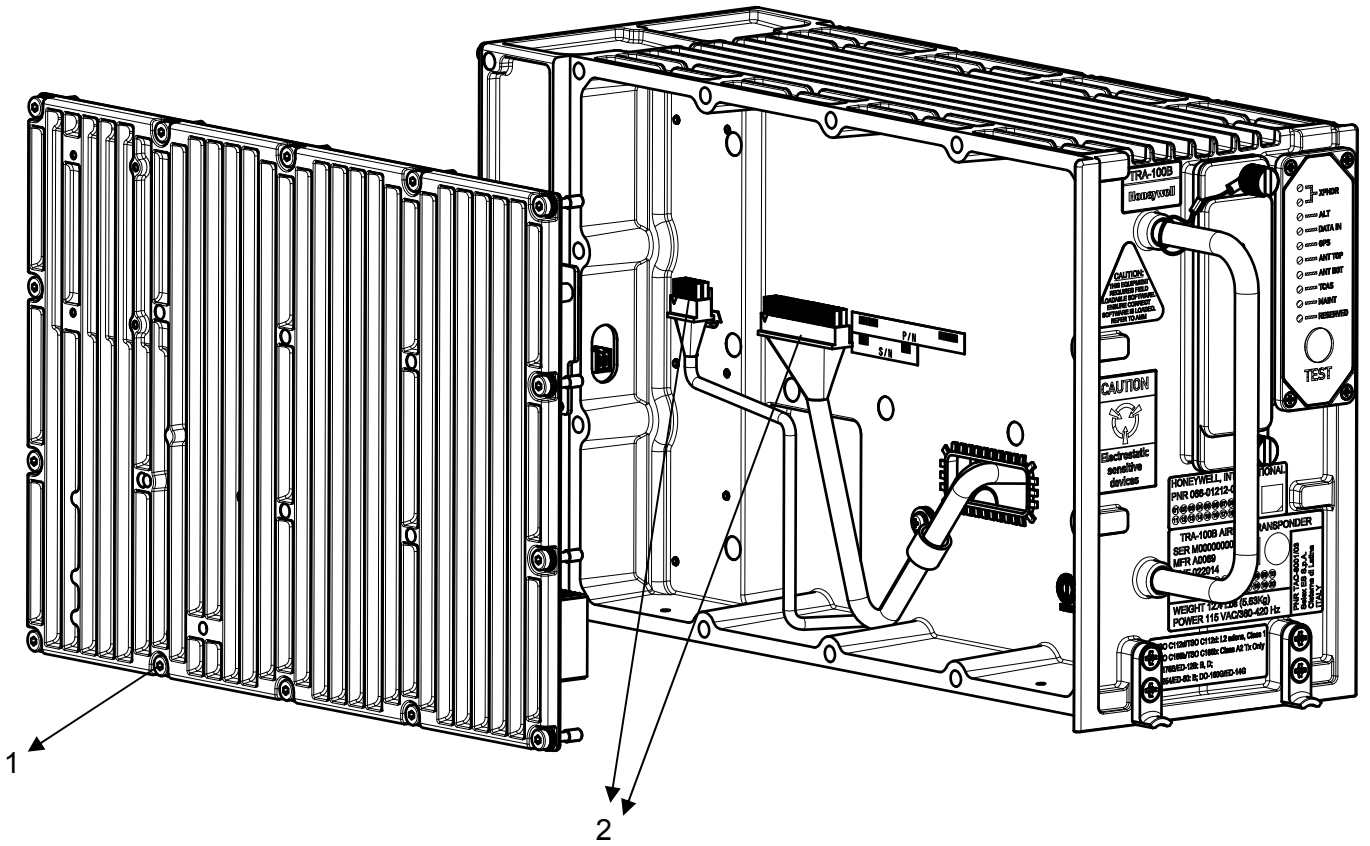
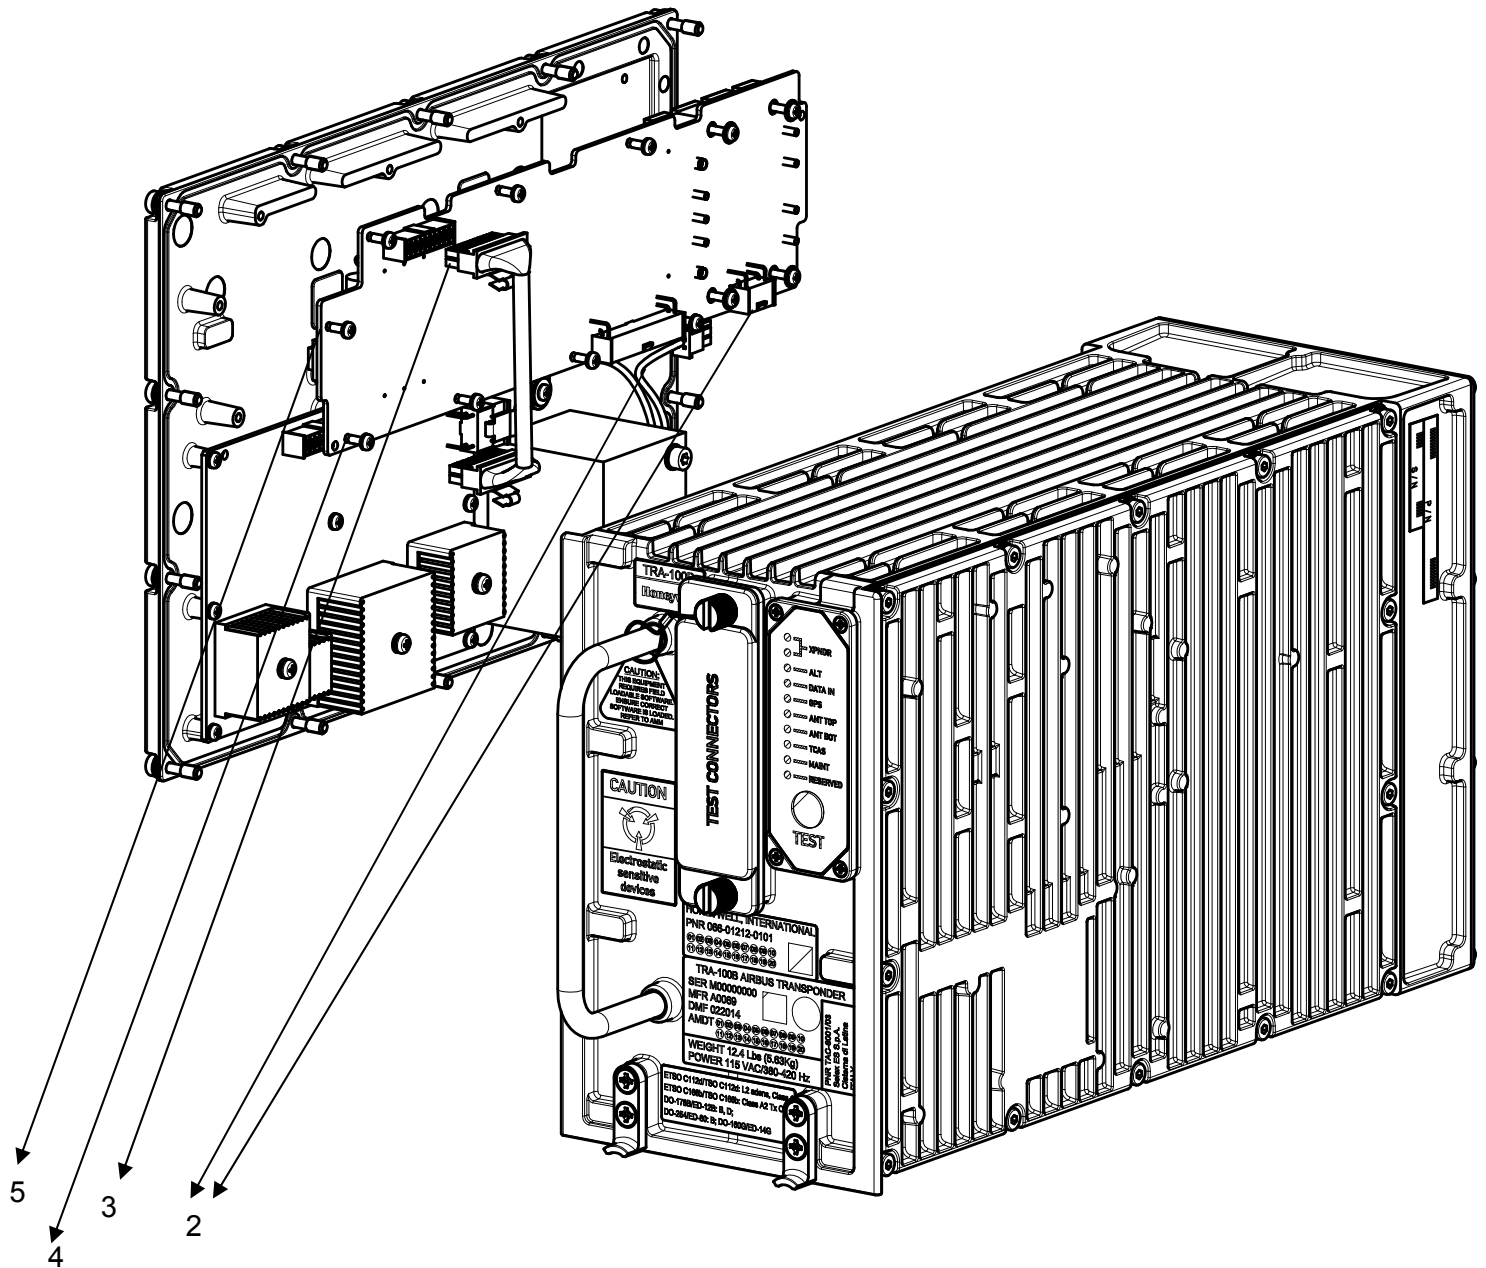

Figure 8-4 – TRA-100B, AC Power Supply (ACPS) – Replace procedure
Figure 8-5 – TRA-100B, ACPS and DCPS – Replace procedure (position)
- 1.1. Removal Transponder cover (left side) unscrewing the M2,5 fourteen crosshead screws using a torque screwdriver bit holder and related bit (1). (Figure 8-4, Figure 8-5)
- 2.1. Insert the DC Power Supply module on a serviceable AC Power Supply module. (Figure 8-4, Figure 8-5)
- 1.2. Removal the AC Power Supply together with DC Power Supply following the procedure reported in Figure 8-4 and Figure 8-5
- 2.2. Install the AC Power Supply together with DC Power Supply following the procedure reported in Figure 8-4 and Figure 8-5.